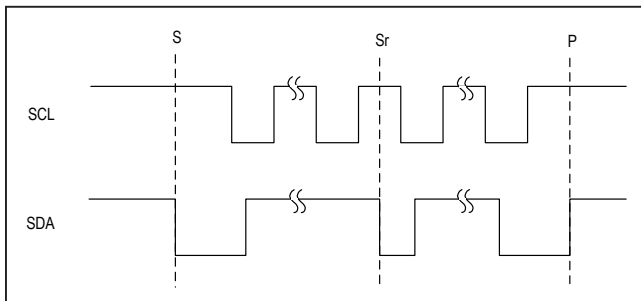

Figure 15. I²C START, STOP, and REPEATED START Conditions
When writing to the MAX20345 using I²C, the master sends a START condition (S) followed by the MAX20345 I²C address. After the address, the master sends the register address of the register that is to be programmed. The master then ends communication by issuing a STOP condition (P) to relinquish control of the bus, or a REPEATED START condition (Sr) to communicate to another I²C slave. See Figure 15.